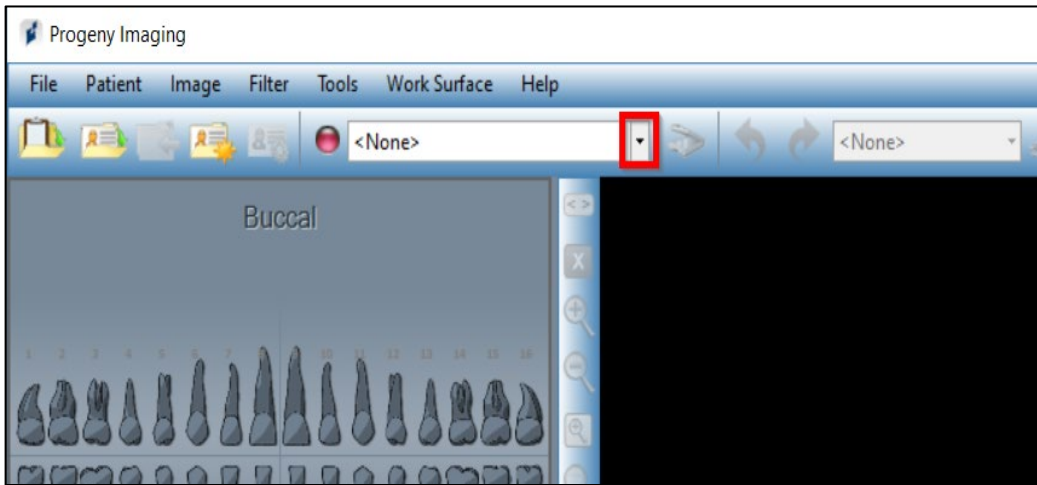

Figure 21. The drop-down arrow next to the device status indicator in Progeny Imaging.
- In the toolbar at the top of the Progeny Imaging screen, locate the drop-down field that is next to the circular red device status indicator. “<None>” is displayed in the field. Click on the drop-down arrow to the right of this field. See Figure 21 below.